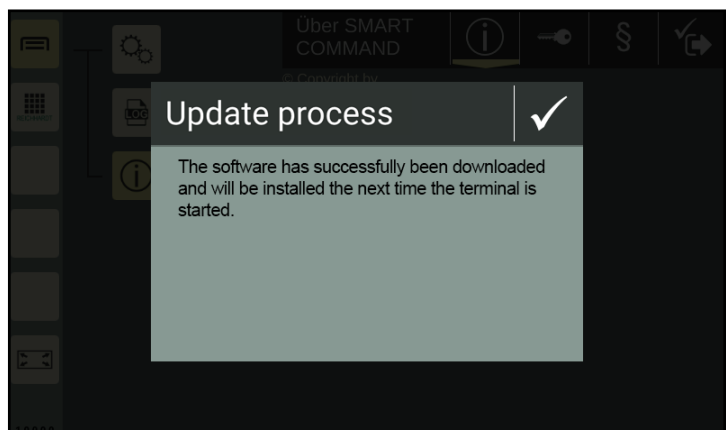

Fig. 119: Update has been loaded
9. Wait until a message appears on the screen indicating that the update has been loaded (see Fig. 119).